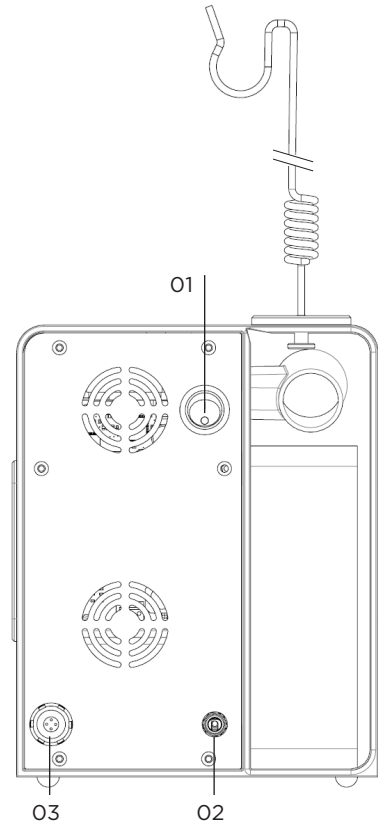

Figure 2 - Rear view
- (1) Connect the supplied mains adapter to the mains socket on the back of the device (see figure 2).